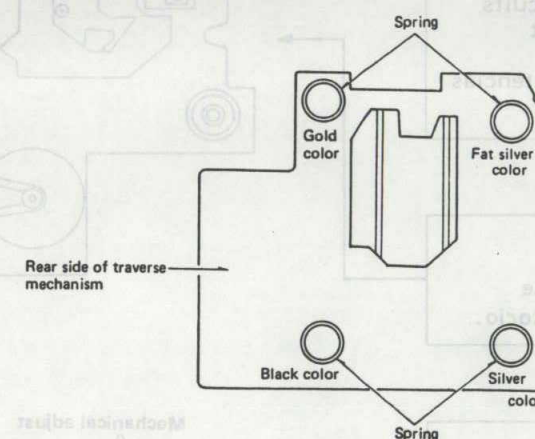

Fig. 24 Front side
- (7) Remove the three optical pick-up fastening screws.
- (8) Remove the optical pick-up fastening shaft.
- (9) The optical pick-up has now been completely separated.
- It is not necessary to remove the traverse unit as before. If the unit needs to be removed, pay attention to the four springs. (See page 20 Fig. 24)